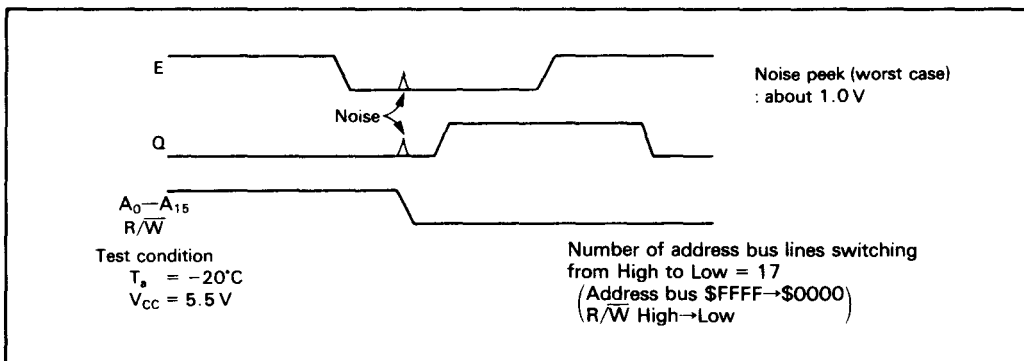

Figure 20. Noise at Address Bus Output Changing
**Noise Occurrence Condition:** As shown in figure 20, the noise pulses which are 0.8 V or over may appear on E and Q clocks when the address bus changes from high to low.